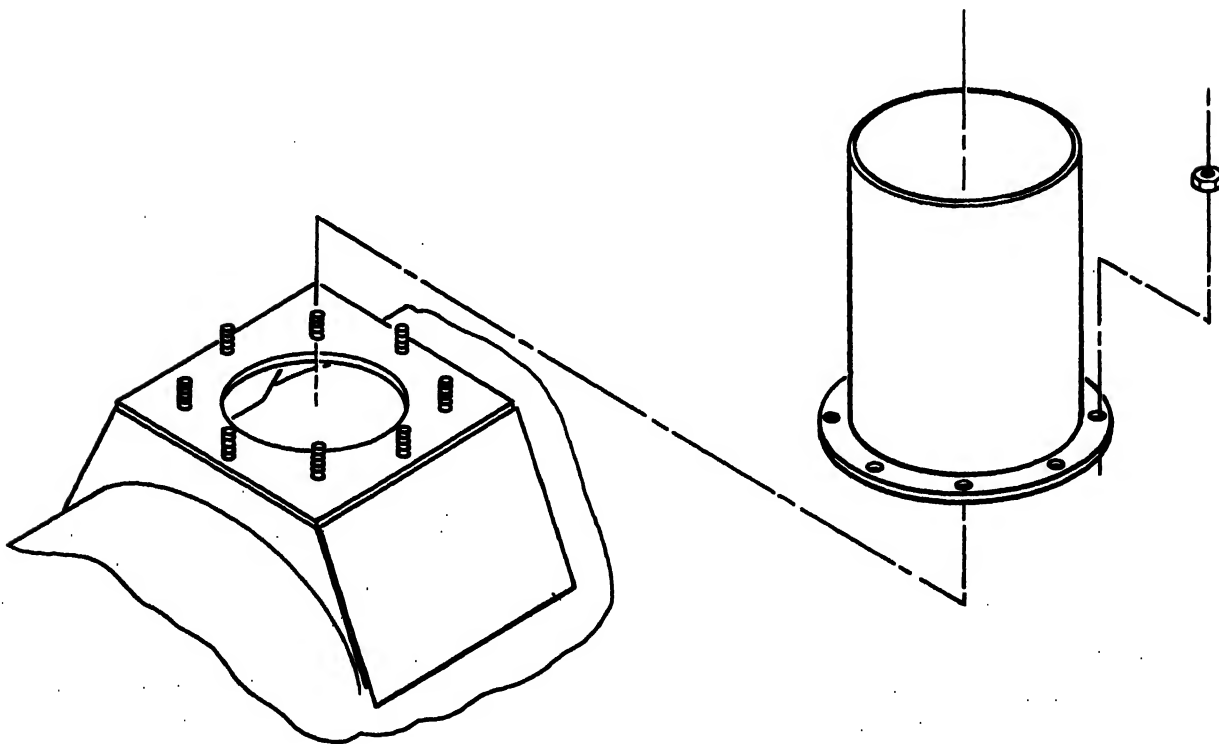

FIGURE 41. REMOVAL OF STACK
- a. Removal. Refer to Fig. 41 and remove the burner exhaust stack.
- c. Installation. Refer to Fig. 41 and install the burner exhaust stack.